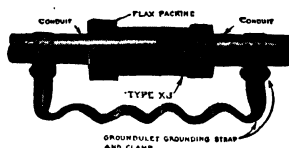

Fig. 15. Conduit Expansion Joint
**Conduit Expansion Joints.** Long conduit runs exposed to wide temperature changes expand and contract to a degree that may break them or pull them loose from their supports. To avert this a conduit expansion joint, as shown in Fig. 15, is installed at one or